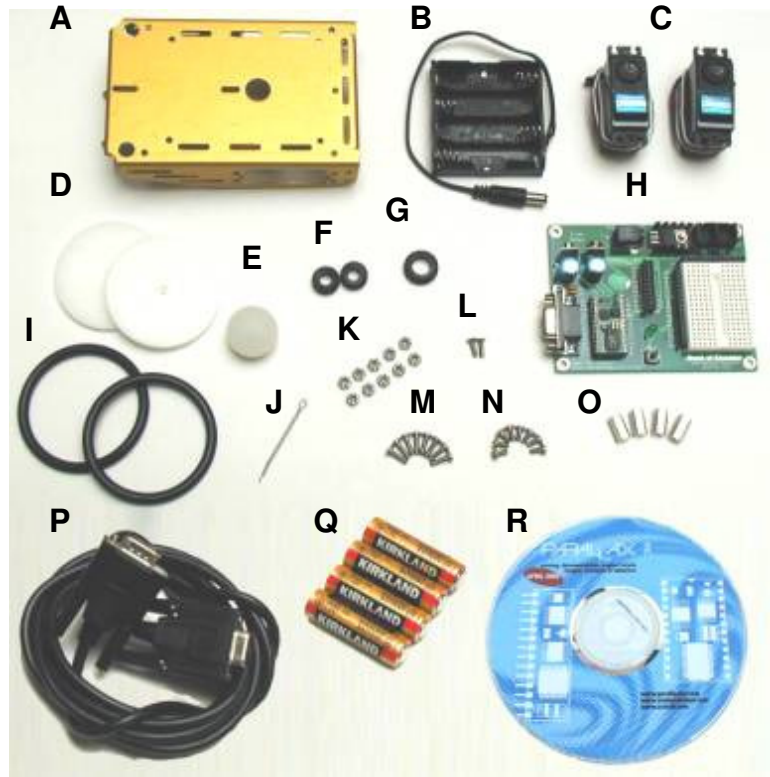

Figure 1.2: Chapter #1 parts.
- ❑ Gather the parts shown in Figure 1.2 and set them aside for use as you go through the rest of the activities in this chapter.